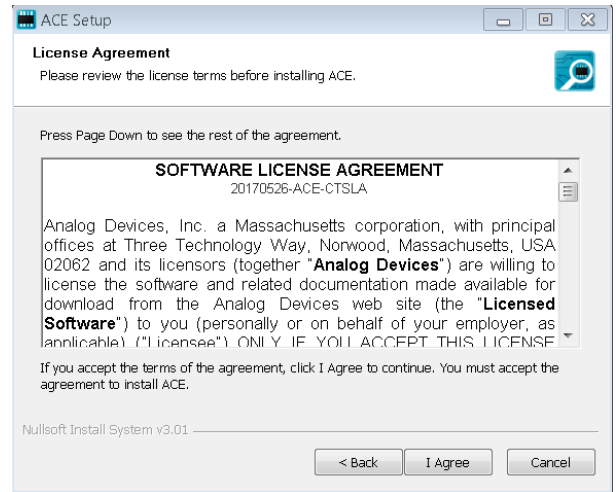

Figure 5. License Agreement
5. Read the software license agreement and click I Agree (see Figure 5).